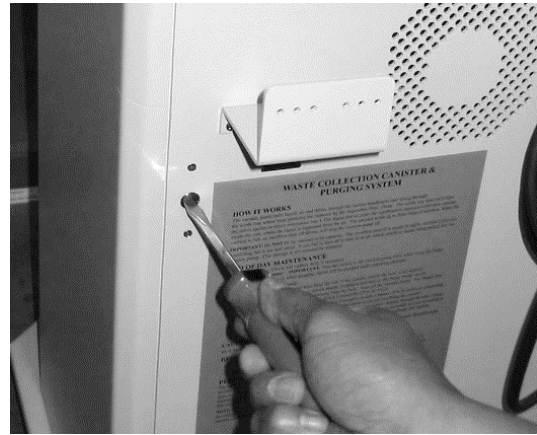

Fig. 1
2. Open the back panel of the unit using a flat head screwdriver. There are two quick-turn screws on the back of the unit. Move the suction tube and the electrical cord out of the way of the back door. (Fig. 1)